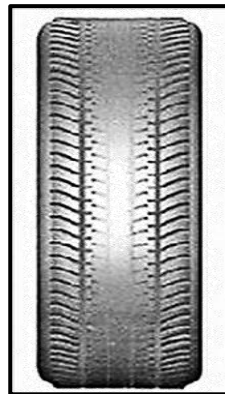

FIGURE 4.12
4.12 What is the cause of the tyre wear pattern shown in FIGURE 4.12 below?